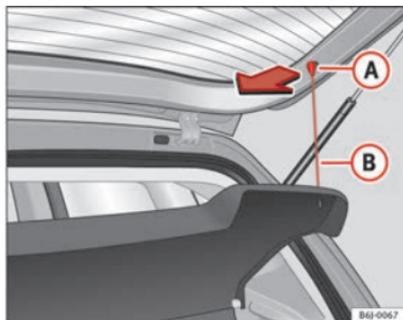

Fig. 90 Rear shelf
- Unhook the loops ⇒ fig. 90 **B** from housings **A**